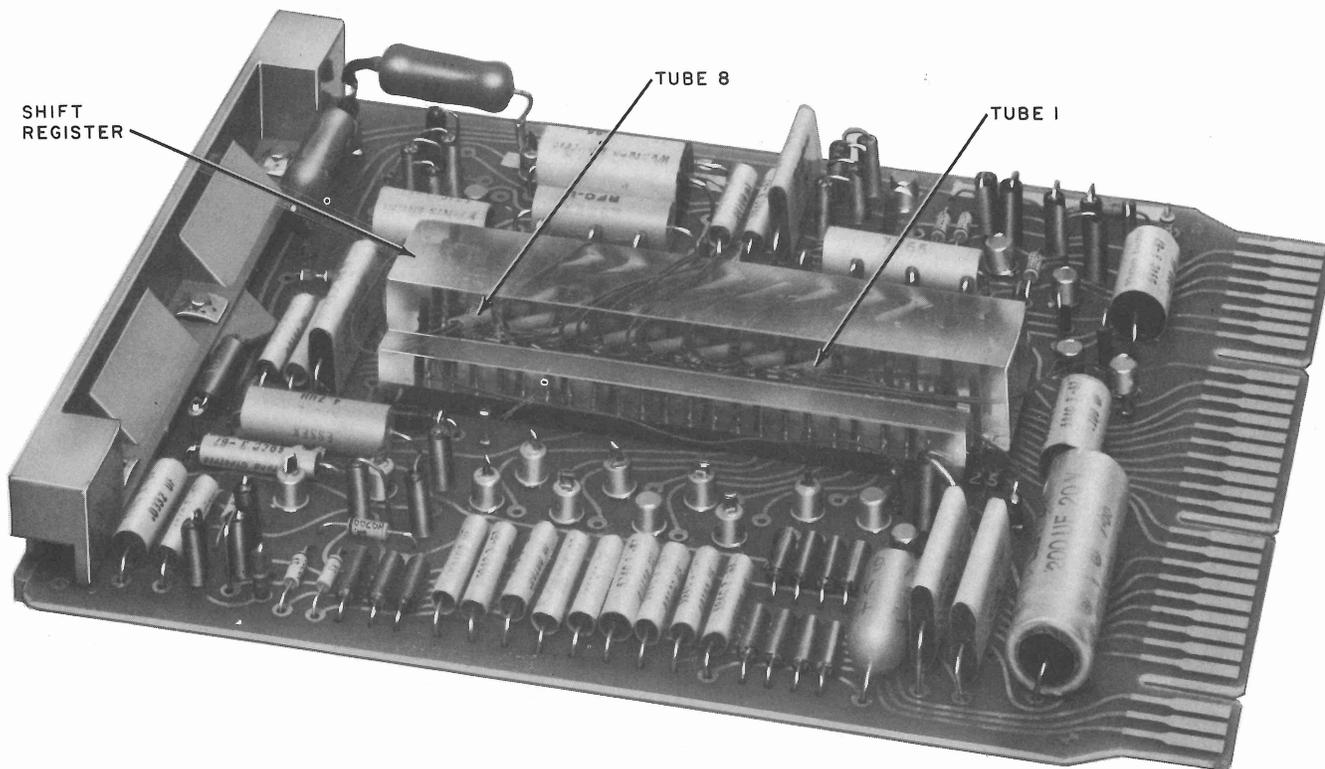

Fig. 4 — Circuit Pack AR37, Location of Shift Register
2.07 Inspect shift register (Fig. 4). A properly encoded CP AR37 shift register should have *three* 24 — 28 gauge insulated wires running through each of the eight tubes.